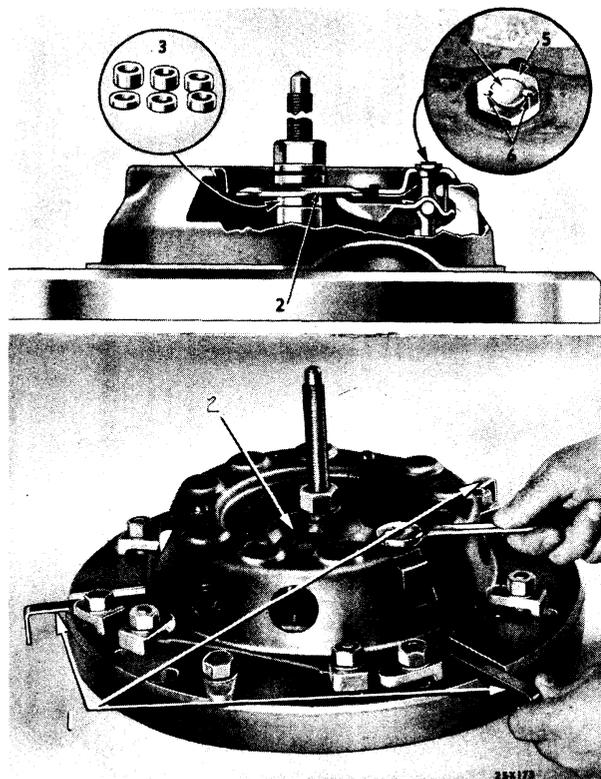

Fig. 7—Adjusting Clutch Release Levers
4. ADJUSTING THE RELEASE LEVERS (Fig. 7)
- (4) Install the self-aligning washer, flatwasher and compression nut.
- (5) Tighten the compression nut until the clutch is fully compressed.
- (6) Adjust the clutch release levers until the feeler gauges have the same slight drag or feel while being pushed in or pulled out. **Tighten** the nuts to **decrease** drag and **loosen** to **increase** drag, as shown in Figure 7.
- (7) Recheck the release lever adjustment to make sure each one is adjusted properly. Stake the nuts to hold them in position.
- (8) Remove clutch from fixture and install in car, as described in Paragraph 2, of this Section.